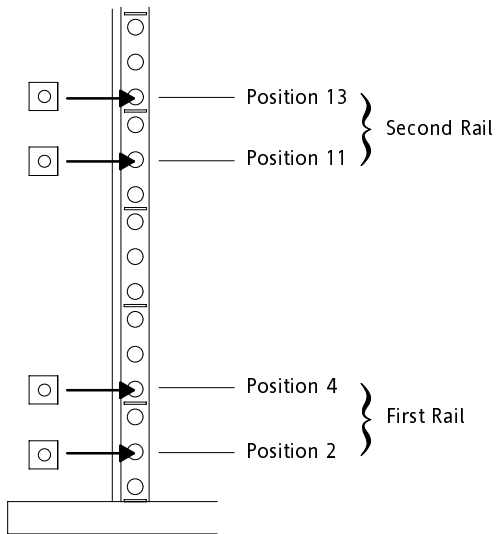
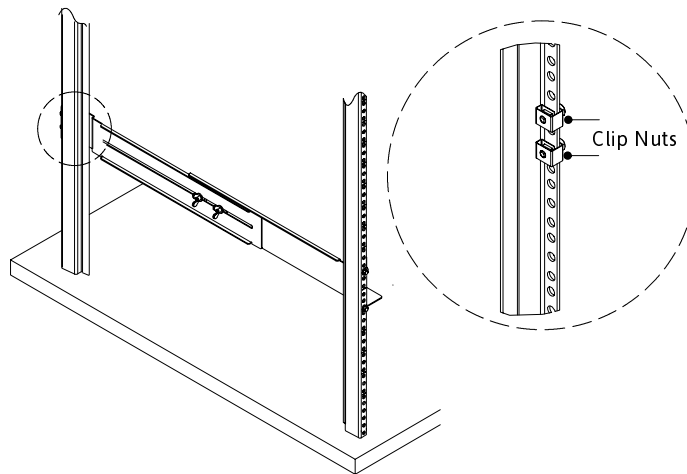

Figure 4. Rear Rail Screw Positions
Figure 5. Securing the Rear Rail
4. Using two clip nuts and two hex-head screws, attach the rail to the rear of the rack (see Figure 4 and Figure 5).